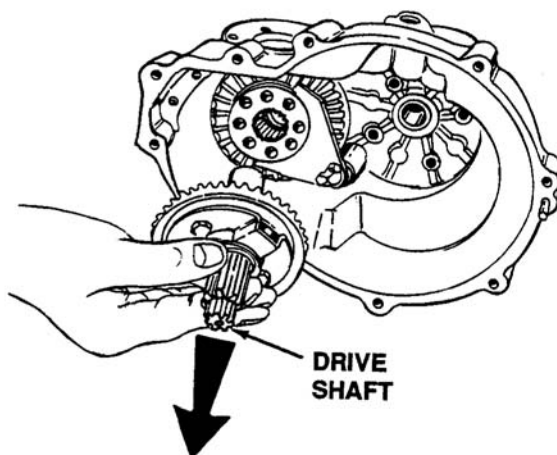

Figure 5-13. Removing Drive Shaft
14. Remove the drive shaft assembly by pulling straight out. See Figure 5-13.